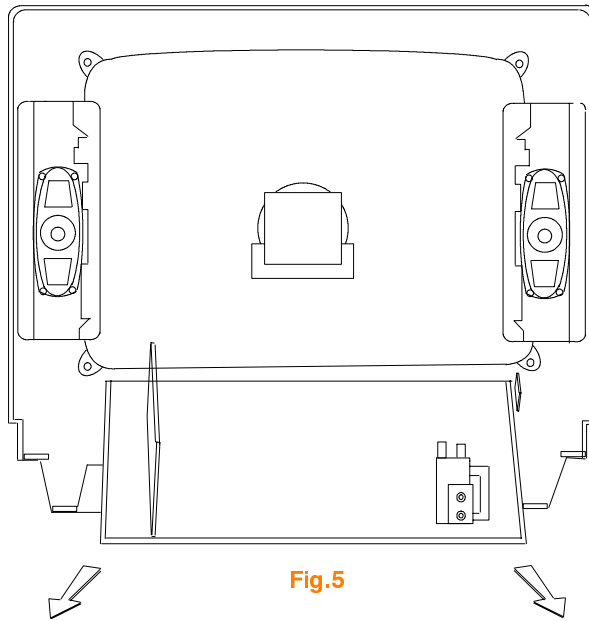

Fig.5
1. To place the chassis into service position hold and lift the rear of the E – PCB chassis and gently pull the chassis toward you as shown in Fig.5.